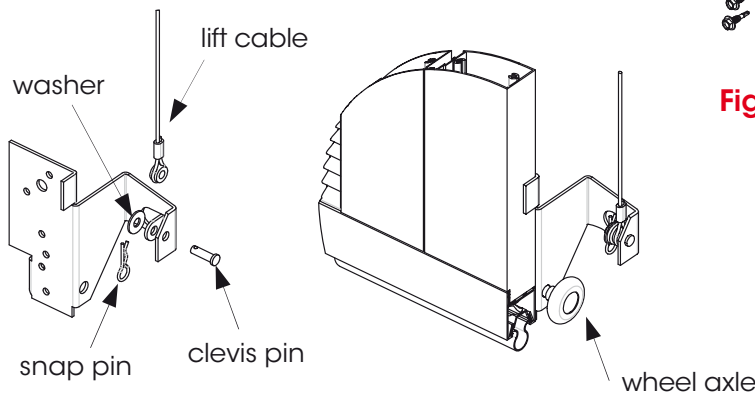

Fig: 5.2.2
- b) Attach the lift cable to the bottom hanger using a clevis pin, washer and snap pin. Fig 5.2.2
- c) Insert the wheel axle through the bottom hanger and bottom panel bracket. Fig 5.2.2.